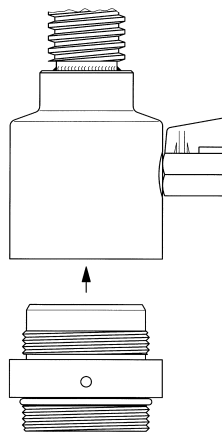

Figure 31
- Choose the adapter that matches the thread of the saddle and screw it into the machine dome. See *Figure 31*.